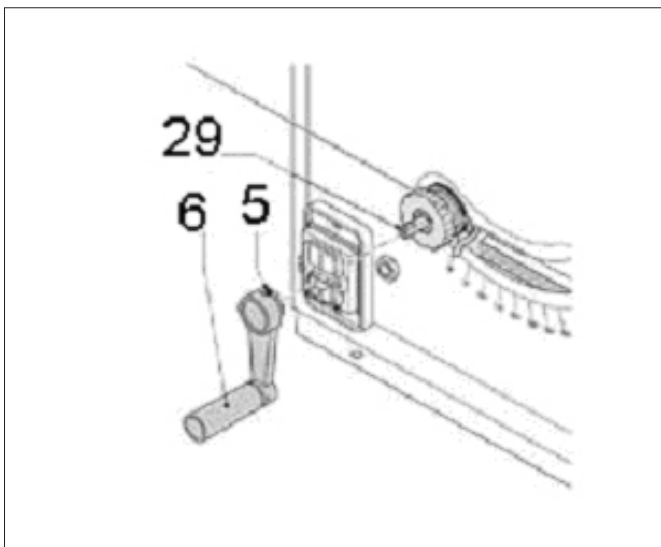

Figure 7
Slot the saw depth adjustment handle (6) onto the shaft (29), and screw up the lock button (5) against the flat side of the shaft as shown in figure 7.